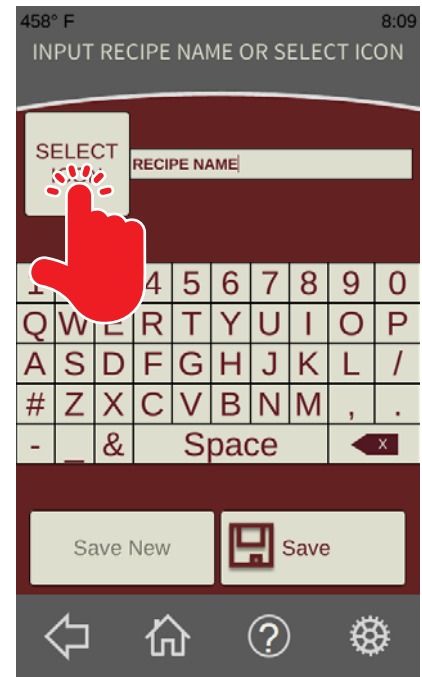

Fig. 38
2. From the **Recipe Naming Screen** (Fig. 38), enter the desired recipe name using the keypad. Touch the SELECT ICON button (Fig. 38) to access the available icons for the recipe. The **Select Recipe Icon Screen** should be displayed.